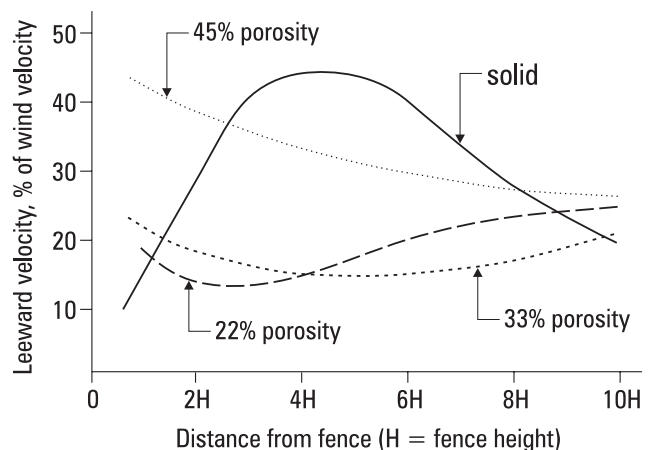

Figure 2. Velocity reduction for different porosity fences.
- Figure 2 shows the velocity reduction for different porosity fences, and the distance from the fence where the velocity is reduced.
provided Figures 2, 3 and 12 to the original Saskatchewan